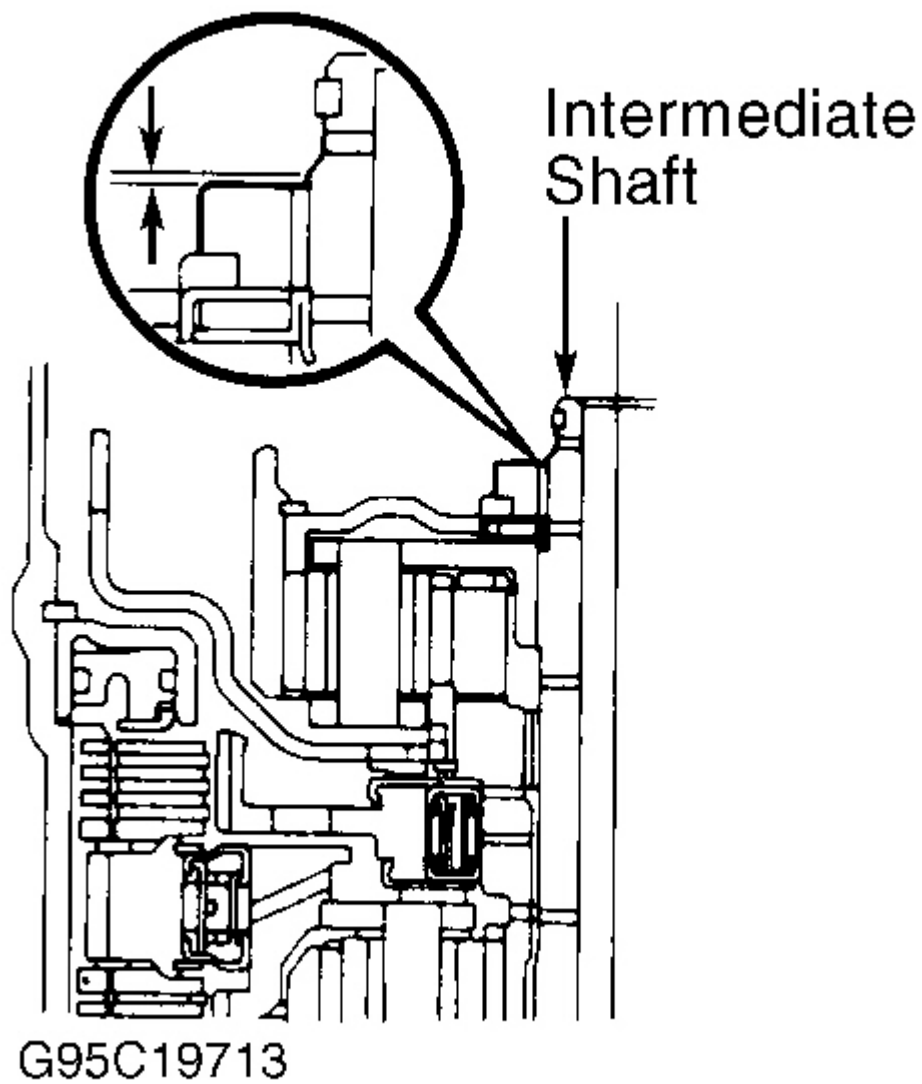

Fig. 60: Checking Front Planetary Ring Gear Installation
25. If components installed in transaxle case are correctly installed, end of ring gear flange bushing will be even or slightly lower than intermediate shaft shoulder. See **Fig. 60**. Install thrust bearing and races "D" on tip of ring gear flange. Install 2nd coast brake band into transaxle case. Install pin.